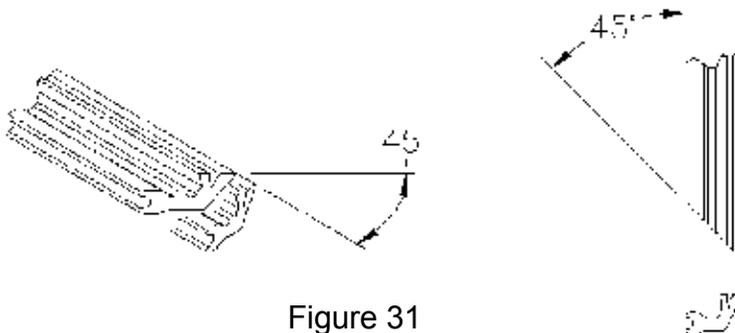

Figure 31
C. Trim the end of the floor seal at a 45° angle at both ends (Figure 31). The angle on the seal pushes the adhesive into the seal groove. Pull the floor seal into the floor slat. The open end of the “Y” must be towards the top of the slat (Figure 32). Pull the polyurethane (black) seal short of the full length by the dimension “X”. The dimension “X” varies with the floor slat length. Refer to Figure 33 to determine the correct “X” length. Cut the floor seal off flush with the end of the floor slat (Figure 34). If using the polyethylene seal (blue) pull it flush with the end of the floor slat (Figure 35).